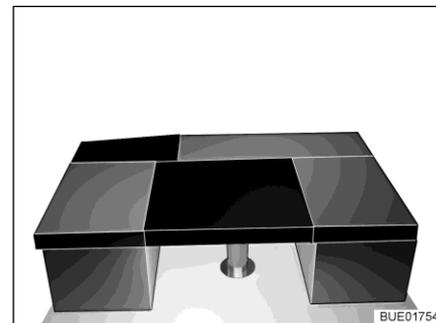

Fig. 165 After conversion
- Place the rectangular additional cushion on the table (between the seat cushions of the benches, see Fig. 165).